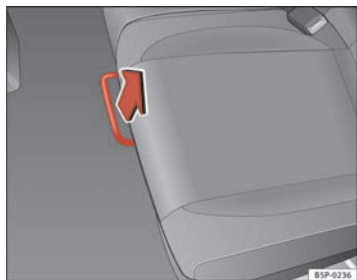

Fig. 97 For unlocking the rear seat
- In the seated position, unlock the lever in the direction of the arrow ⇒ fig. 97.